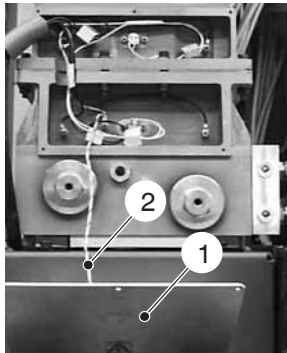

Figure 7-13
5. Center the coupling disks (1) to one another and allow the coupling links to hang vertically (Refer to Fig. 7-13). Turn the coupling half on the motor shaft to its position by hand.